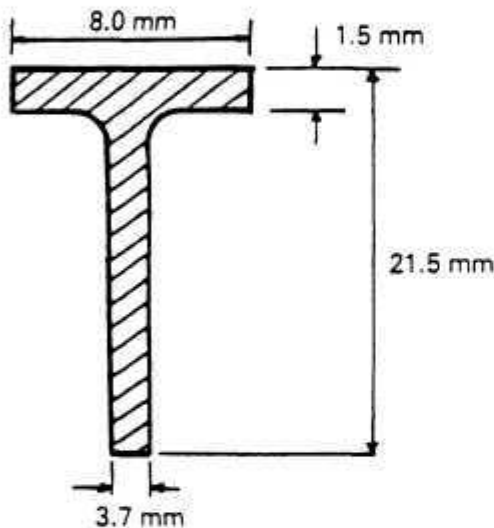

Fig. 20
3. With a pair of "pointed-nosed" pliers insert the extraction tool (Fig. 20) in the hole. The tool must be held vertically.